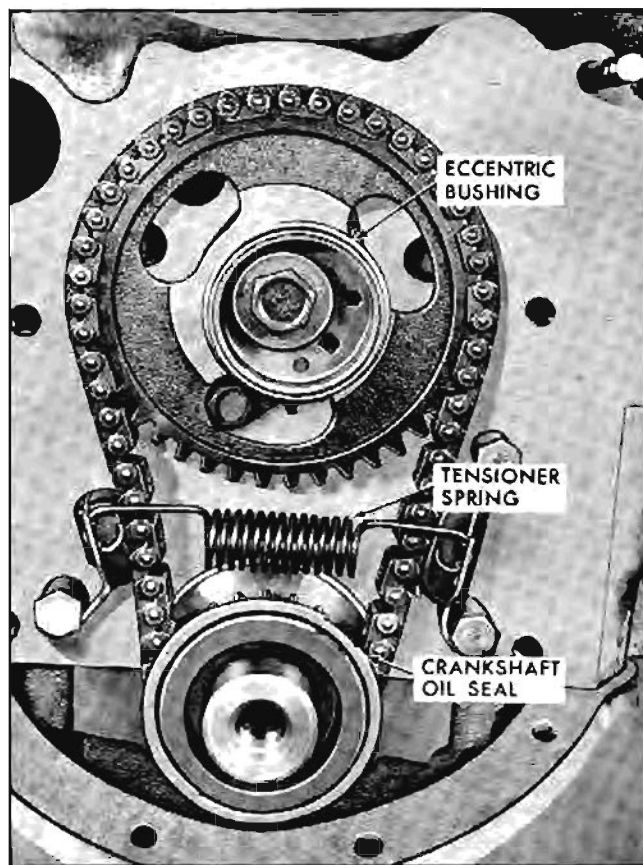

Fig. 6-39 Front of Engine with Timing Cover Removed
8. Remove fuel pump eccentric bushing and crankshaft oil seal (Fig. 6-39).
2. Remove timing chain tensioner spring and bumper (Fig. 6-39).